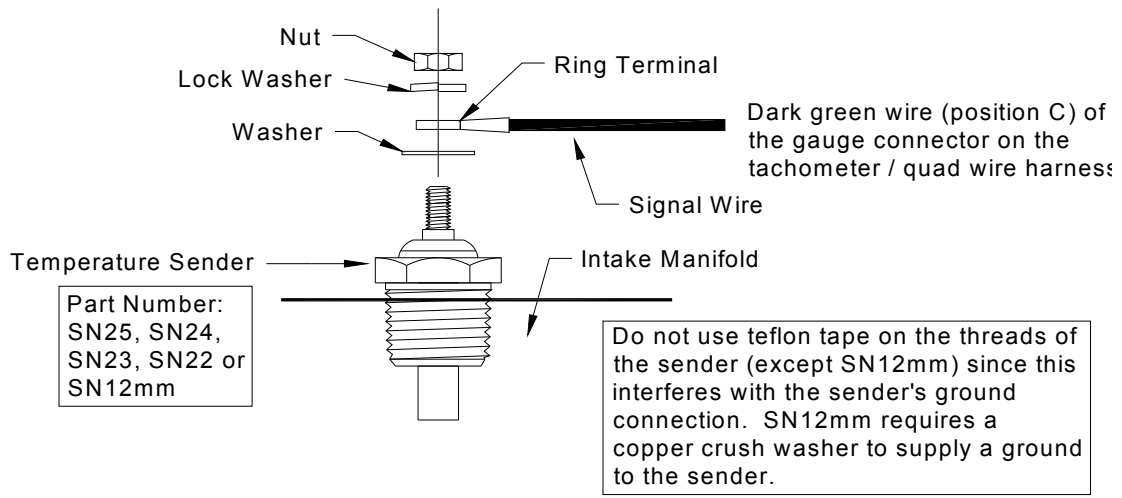

Figure 4: Temperature Sender Wiring
- 4) Connect the **dark green** wire (position C) of gauge connector on the tachometer / quad wire harness to the supplied Classic Instruments temperature sender. (see figure 4)